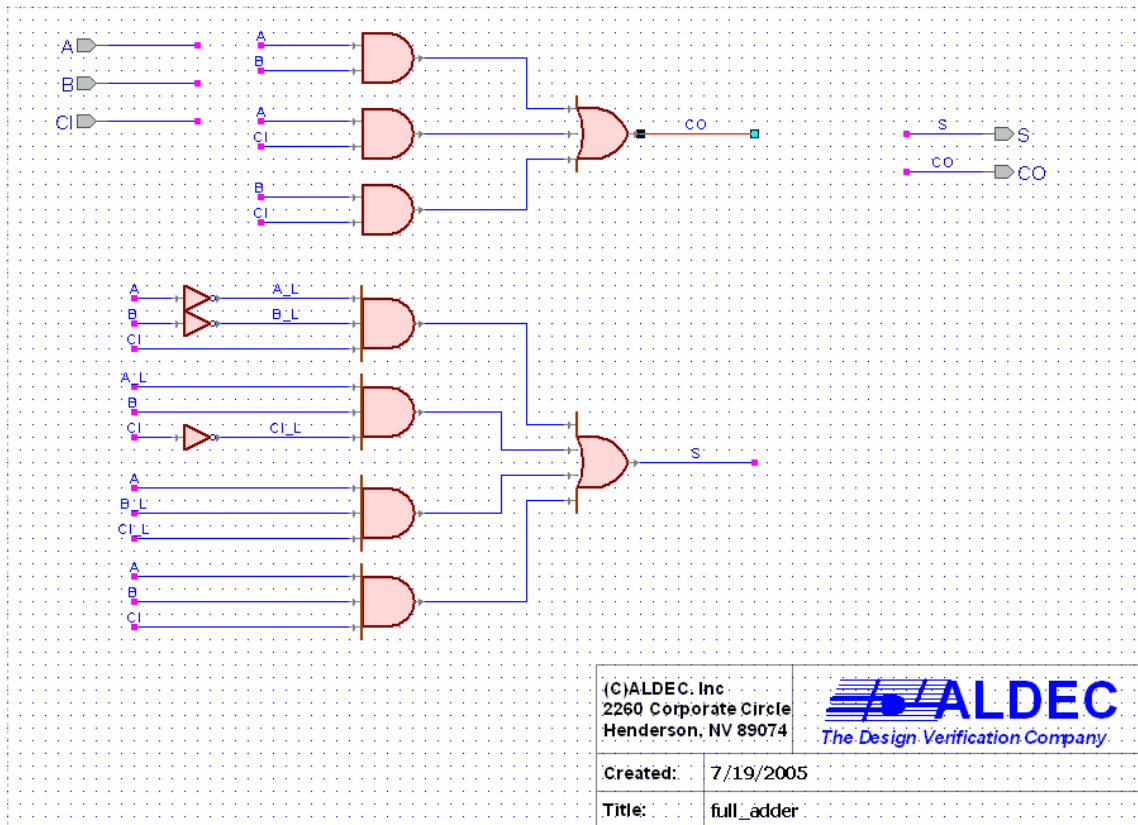
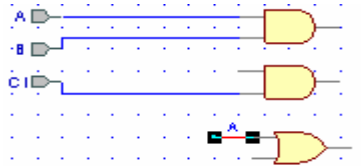

Figure 11
Figure 21
Figure 11 is the final version of the schematic you will be drawing. Your final design should look similar*.
Connections to terminals can be made “by wire” or “by name”. By wire connections connect terminals by a wire. If a wire and a terminal have the same name, they are connected by name. Lots of wires can be confusing and named connections are used to make easy to read schematics. Figure 21 is an example of both methods. Also, the final schematic version of the full adder presented earlier (Figure 11) shows how to create an easy to read schematic using connections by name.
**** Complete your schematic so it looks like Figure 11 ****